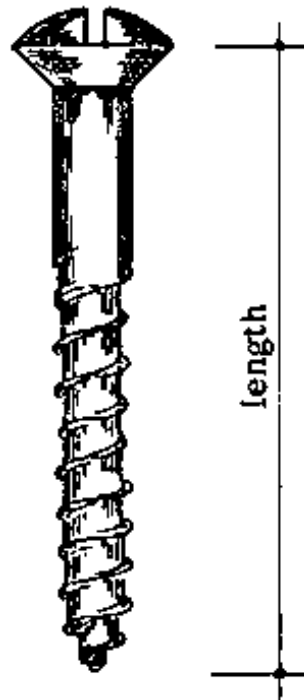

Fig. 3
- RAISED COUNTERSUNK HEAD SCREWS: The head of this screw combines the round and countersunk heads; round on top, tapering underneath. It is stronger than the round head screw because the head is less likely to break off. The length is measured as indicated in Fig. 3.